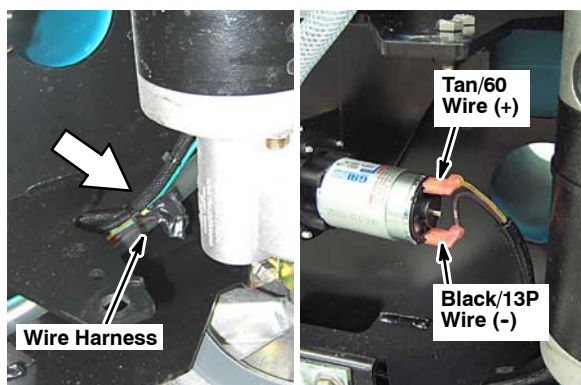

Fig. 6
10. Locate the black/13P and tan/60 wires that are wire-tied to the machine's wire harness. Connect the tan/60 wire to the wand pump's positive (+) terminal and the black/13P wire to the negative (-) terminal (Figure 6).